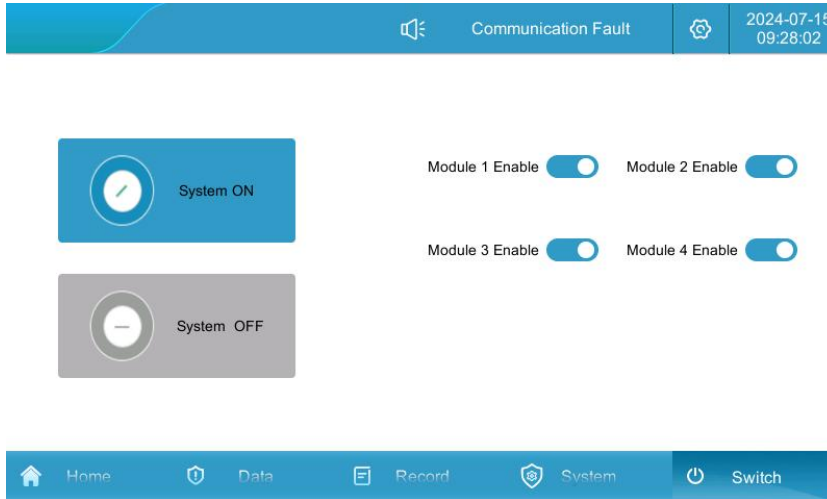

Figure 5.3 Switching Interface
6. Enable all modules in the "Switch" page of the touch screen (you can also turn on some of the modules according to the actual need), click "System On", the normal opening time is about 30 seconds, as shown in Figure 5.3.
- 7. Converter shutdown: When the converter is in operation, click "Converter Shutdown" as in Figure 5.3;